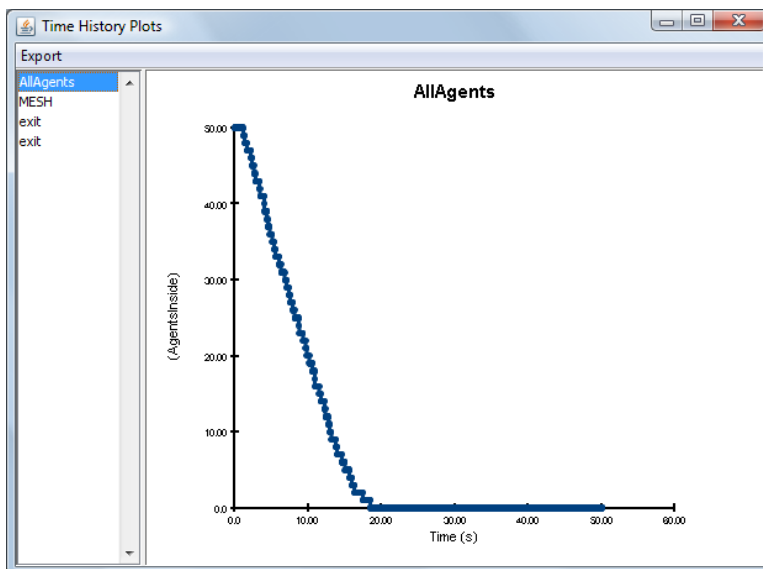

Figure 7.4. Occupants as a function of time
2. A dialog will appear showing a list of 2D result files. Select **evac_evac.csv** and click **Open** to view the occupants in the room as a function of time, Figure 7.4.